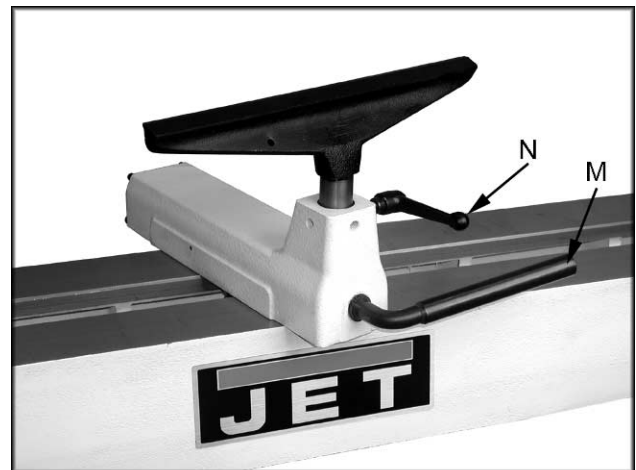

Fig. 9
10. **Tool Rest Body Lock Handle:** (M, Fig. 9) Locks the tool rest body in position. Unlock handle to position the tool rest in any location along lathe bed. Tighten handle when properly positioned.
11. **Tool Rest Lock Handle:** (N, Fig. 9) Locks the tool rest in position. Unlock the handle to position tool rest at a specific angle, or height. Tighten handle when properly positioned.